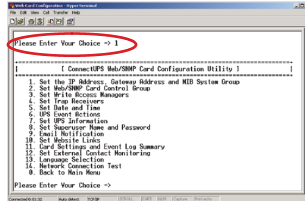

Figure 12. Configure Adapter Settings
1. Type **1** on the Main Menu to display the Web/SNMP Adapter Settings screen (see Figure 12).